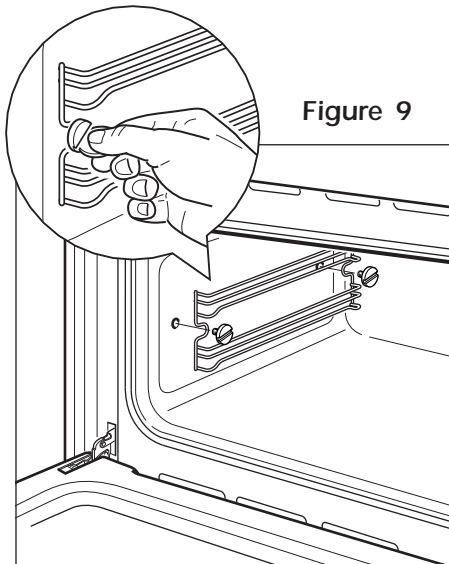

Figure 9
- Assemble the wire racks to the oven walls using the 2 screws (Fig. 9).